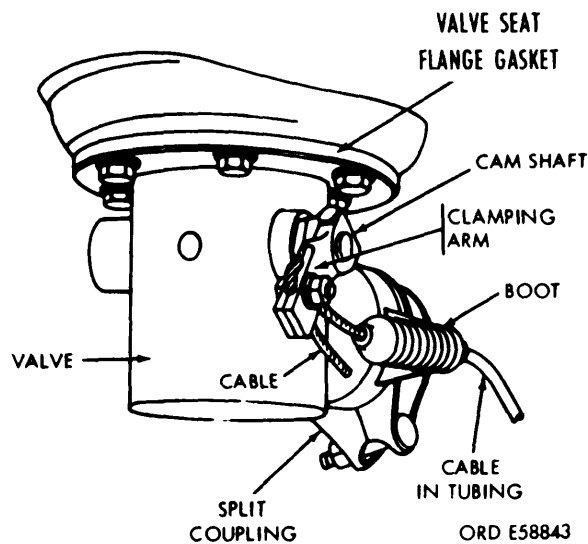

Figure 4-35. Emergency valve.
*e. Emergency Valve (fig 4-35).*